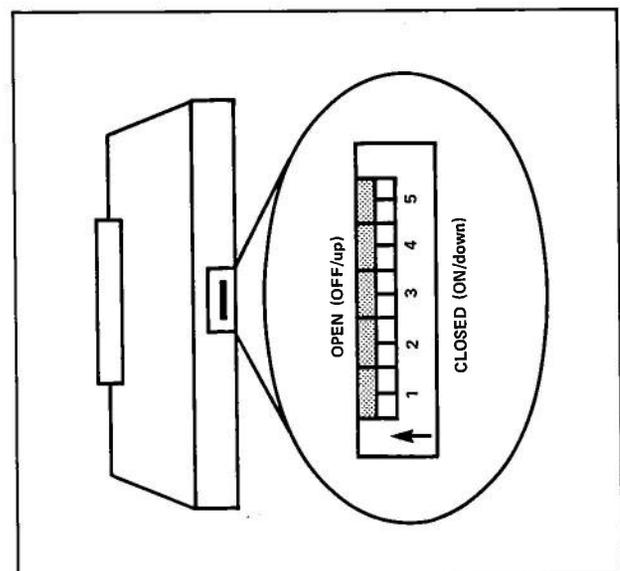

Figure 6 – Module Switches
Step 8 – Another rocker switch assembly is located near the rear edge of the Module. (See Figure 6.) It may be necessary to remove the Module from the Rack to see it.